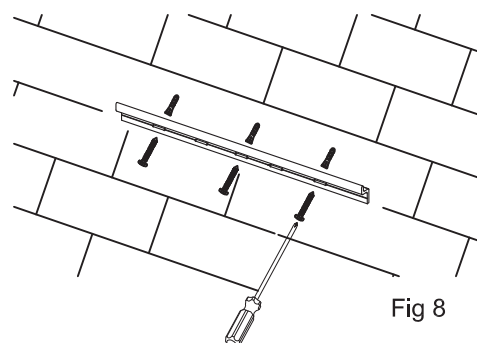

Fig 8
3. Drill 8 mm hole if required for wall anchor and place wall anchor in hole. Mount wall bracket with #10 x 1 1/2" ⑤ screws. (Fig 8)